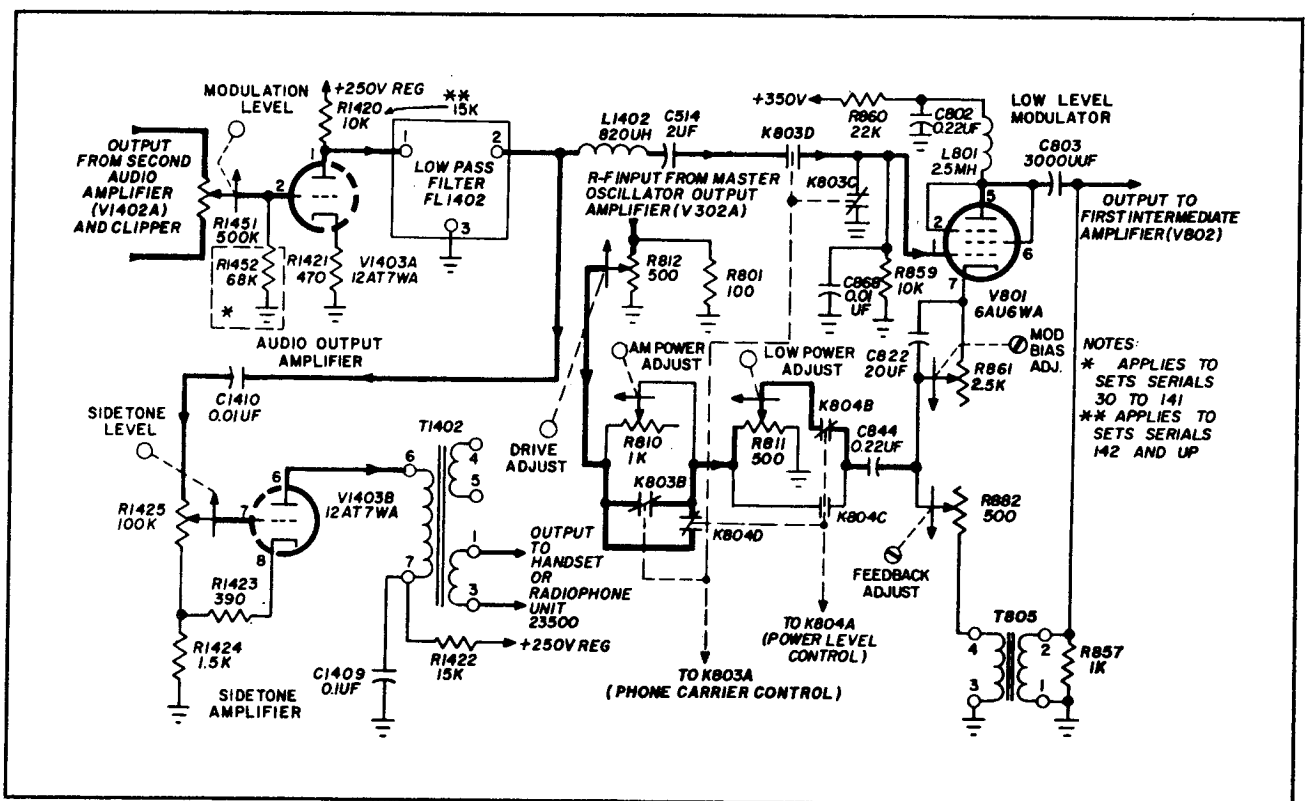

Figure 4-14. Audi Output Amplifier, Sid t n Amplifier, and Low Level Modulator, Simplified Schematic Diagram
(a) The audio output amplifier and sidetone amplifier circuits are located on a single subchassis contained in Amplifier-Power Supply AM-2198/WRT-1. The low level modulator circuits are contained in Radio Frequency Amplifier AM-2197/WRT-1. A simplified schematic diagram of the circuits is shown in figure 4-14. For further detail refer to the schematic diagrams of figures 6-26 and 6-29.
(c) As shown in figure 4-14, the amplified signal appearing at the plate of audio output amplifier V1403A is coupled through low pass filter FL402, choke L1402, and capacitor C514 to terminating resistor R859 (Assume for the moment that phone carrier relay K803 is energized). The design of FL1402 is such that signals with frequency higher than 3500 cycles are greatly attenuated. Choke L1402 and capacitor C1421 act as an r-f filter to prevent stray r-f signals from passing back into the speech amplifier circuits.
(e) As shown in figure 4-14, the r-f carrier from the master oscillator output amplifier is introduced across the parallel combination of resistor R801 and DRIVE ADJUST potentiometer R812 (the control is located on the front panel of Radio Frequency Amplifier AM-2197/WRT-1). For all types of emission except AM, phone carrier control relay K803 is deenergized and the relay contacts are as shown in figure 4-14. During 100W operation, or when tuning or adjusting, power level control relay K804 is also deenergized and the relay contacts are as shown in figure 4-14. In such a case, the r-f drive voltage is coupled from the arm of LOW POWER ADJUST potentiometer R811 through capacitor C844 to the cathode of V801. During 500W operation, relay K804 is energized and the LOW POWER ADJUST potentiometer is bypassed by contacts K804C. For all types of operation except AM, low level modulation V801 functions essentially as a cathode driven amplifier. A portion of the r-f cathode drive is coupled into the secondary of transformer T805 and the voltage developed across resistor R857 appears at the grid of V802 180° out of phase with the normal plate output of the tube.
(d) During FSK operation, keying selector relay K302 is energized and, as shown in figure 4-15, the output of keying amplifier V450A is diverted to the FSK circuits through the normally open contacts of K302C. The teletypewriter loop can have either of two terminations—2000 or 6000 ohms—depending upon the position of the shorting strap on FSK TERMINATION board E502 located in Amplifier-Power Supply AM-2198/WRT-1 (see figure 6-27). Positive d-c voltages developed across the terminating resistors key amplifier V450A as described in the paragraph above. The input line is shunted through FSK TEST switch S308 (located on the front of Radio Frequency Oscillator O-621/WRT-1) by normally open relay contacts K302D and K302E. FSK WAVE SHAPING potentiometer R483 is provided to adjust the bias point of V450A and thus vary the duration of the output keying waveform. To understand the operation of the FSK circuits, refer to figure 4-14 and locate point A. When V450A is not conducting (*space* input), diode CR450 is conducting and the voltage appearing across SHIFT (E) potentiometer R461 is positive with respect to point A and its magnitude is determined by the setting of SPACE ADJUST potentiometer R460. When V450A is conducting (*mark* input) the negative voltage drop across resistor R457 biases diode CR450 to cutoff and diode CR453 conducts. The voltage appearing across SHIFT (E) potentiometer R461 is now negative with respect to point A and its magnitude is determined by the setting of MARK ADJUST potentiometer R462. As shown in figure 4-15, the arm of R461 is connected through the secondary of T450 to the junction of resistor R370 and pin 4 of the FSK winding of saturable reactor L314. Point A is connected to the top of R387. Thus a portion of the positive and negative alternations of d-c voltage appearing across the SHIFT (E) potentiometer is applied across resistors R387, R370, and DEVIATION CALIBRATE potentiometer R341. When the arm of R461 is positive with respect to point A (*space* input), pin 4 of the FSK winding of L314 is positive with respect to pin 3 and the inductance of the a-c winding in the master oscillator grid circuit increases, decreasing the frequency of the master oscillator. When the arm of R461 is negative with respect to point A (*mark* input) the bias on L314 is reversed and the master oscillator frequency is increased. The magnitude of frequency shift is determined by the setting of SHIFT (E) potentiometer R461 (located on the front panel of Radio Frequency Oscillator O-621/WRT-1). As shown in figure 4-15, the bias across R461 is also coupled to the FSK modulator in Electrical Frequency Control C-2861/WRT-1. The frequency of the interpolation oscillator must be shifted as the master oscillator frequency is shifted to prevent the frequency control circuits from generating a large error correction signal.